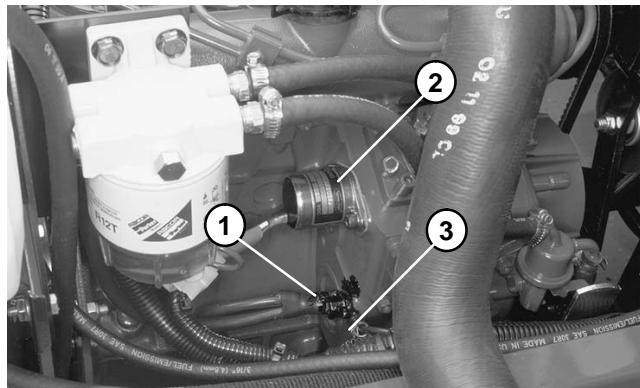

Figure 29
- B. Battery, frame, and wire harness ground to the engine block and the ETR solenoid (Fig. 29).
B. Battery, frame, and wire harness ground to the engine block and the ETR solenoid (Fig. 29).